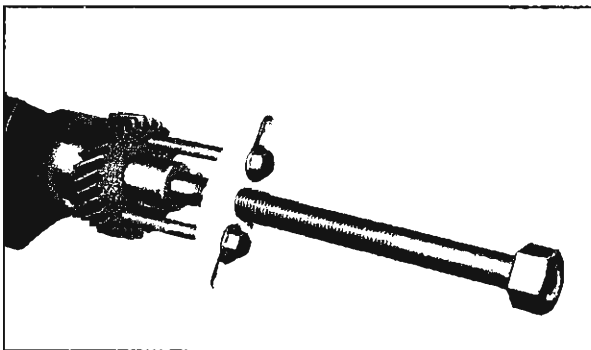

Fig. 73—Removing Crankshaft Gear
26. Remove crankshaft gear with gear puller Tool J-8105 (fig. 73).